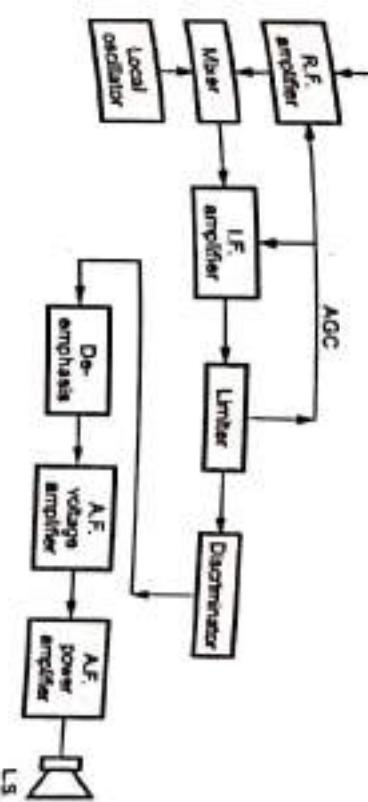

Fig. Q.39.1 Block diagram of F.M. receiver
**Ans. :** • The block diagram of typical F.M. receiver is shown in the Fig. Q.39.1.